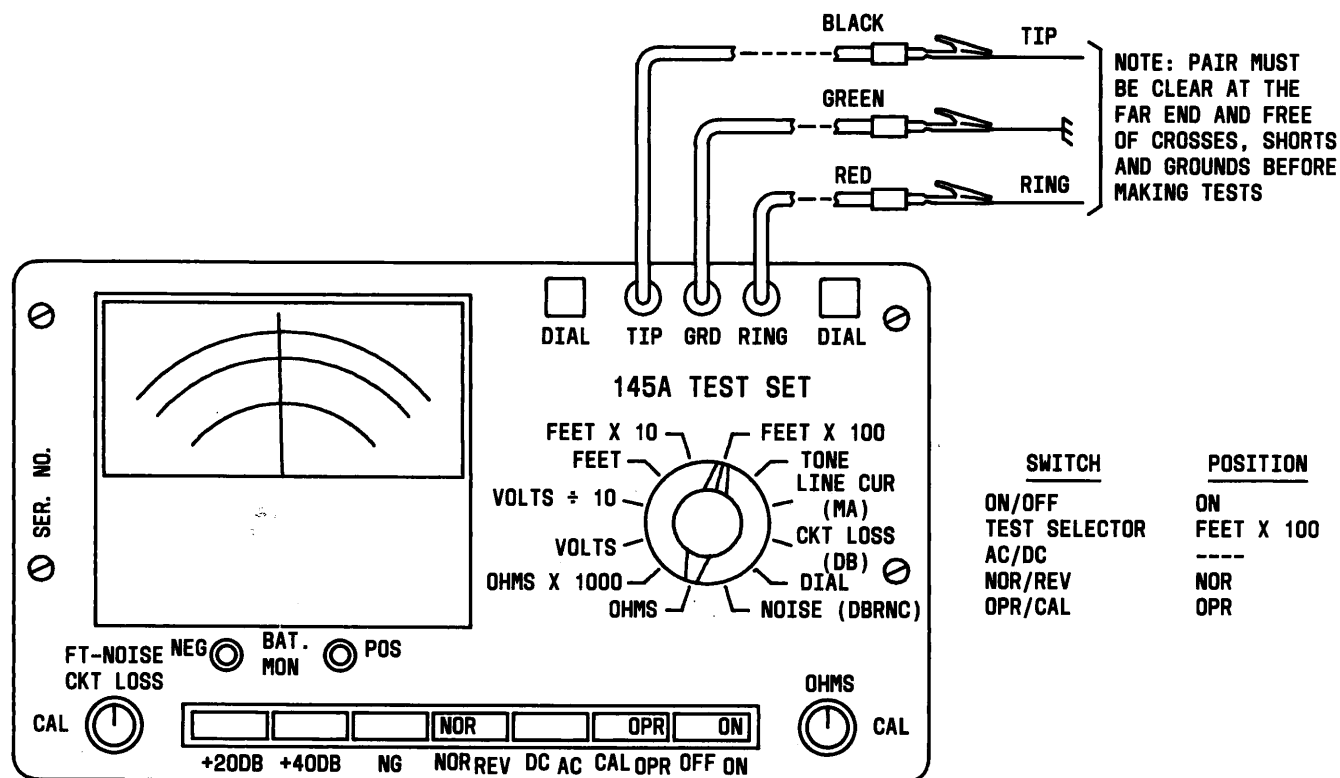

Fig. 6—Cable Pair Length
3.08 Cable Pair Length Measurement (Fig. 6):
3.10 Open Conductor Location (Fig. 6):